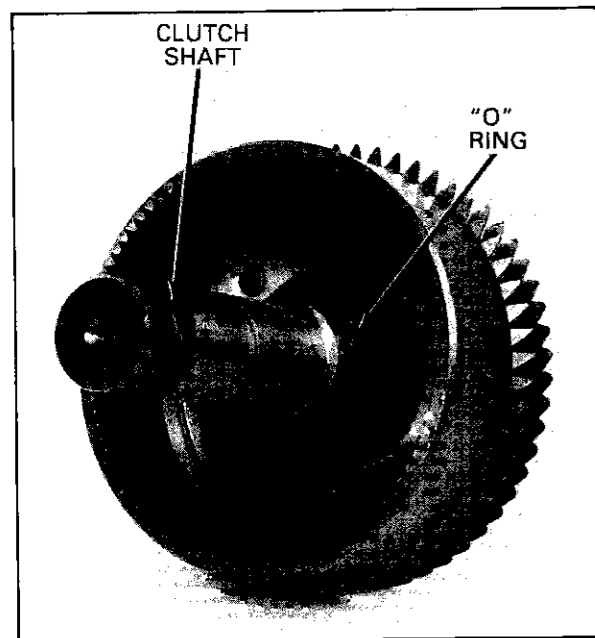

FIG. 21 "O" RING INSTALLATION
14. Lubricate the two "O" rings with petroleum jelly. Assemble one ring into the groove of each clutch shaft (Fig. 21).